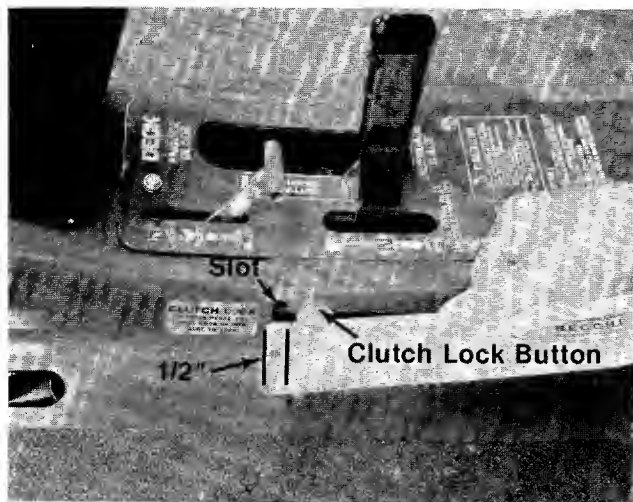

FIGURE 17.
1. With the engine off, release the clutch lock. See figure 17.
2. There should be  $\frac{1}{2}$ " of space between the end of slot and clutch lock button. See figure 17.